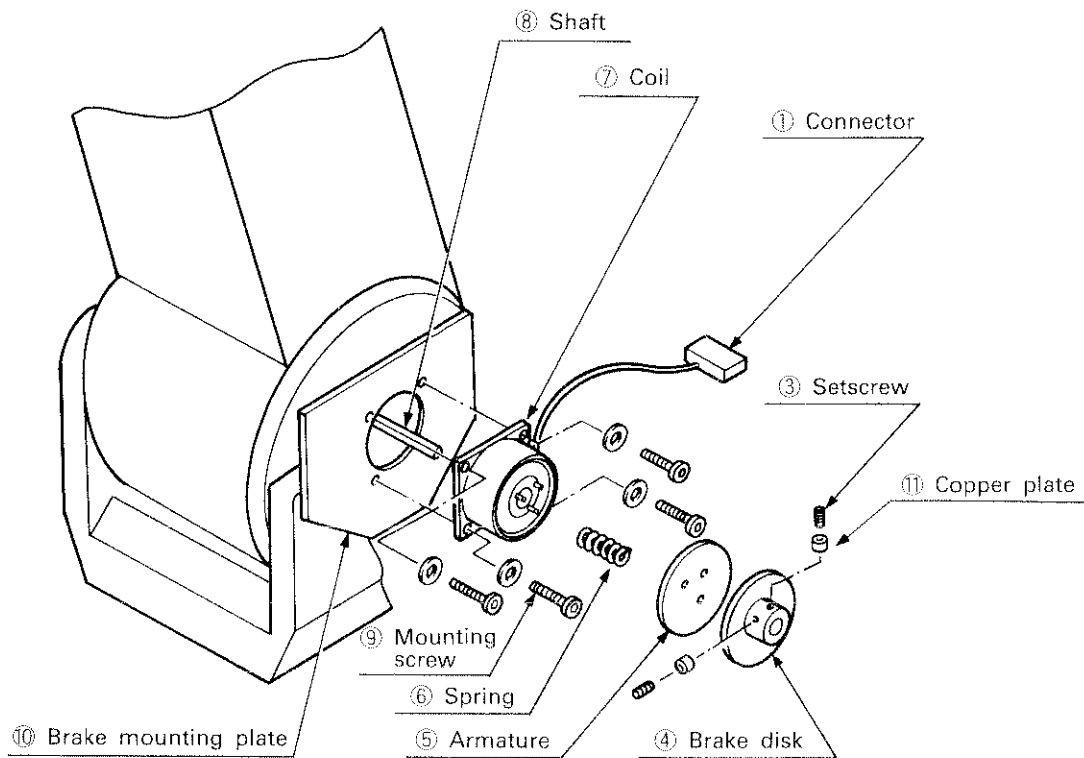
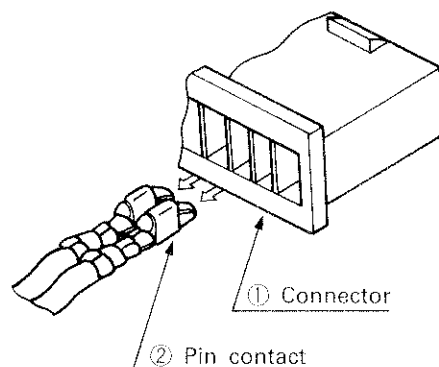

Fig. 4.3.18 Elbow Brake Parts Identification
Fig. 4.3.19 Removing the Pin Contacts
- (1) Fig. 4.3.18 also outlines the replacement procedure of the elbow brake.
- (2) Make sure that the power switch on the drive unit rear panel is in the OFF position.
- (3) Remove the upper and lower shoulder covers by referring to 3.2 Removal of the Covers.
- (4) The brake connector ① (connector name: "PW") is plugged into position inside the shoulder covers.
- (5) Unplug the elbow brake pin contacts ② (contact Nos. 3 and 4) from the receptacle housing in the connector ①. See Fig. 4.3.19.
- (6) Remove the two setscrews ③. At this time, use care not to lose the copper plates ①. Then, remove the brake disk ④, armature ⑤, and spring ⑥ from the shaft ⑧.